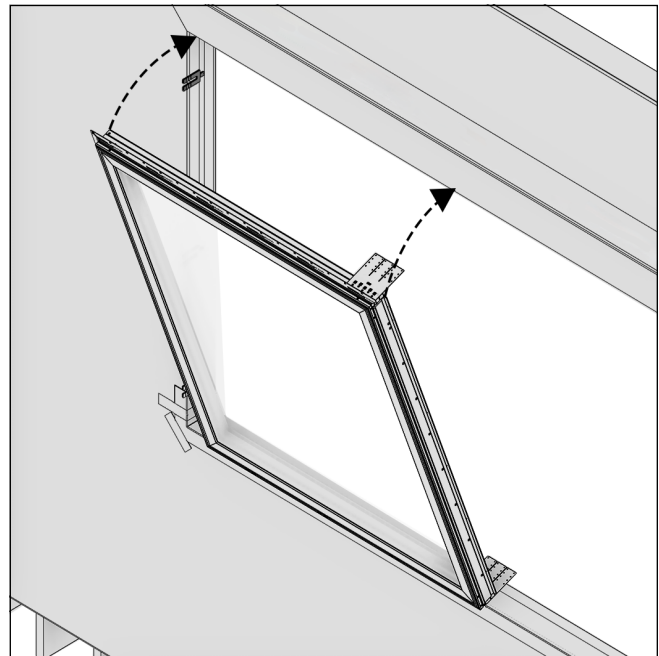
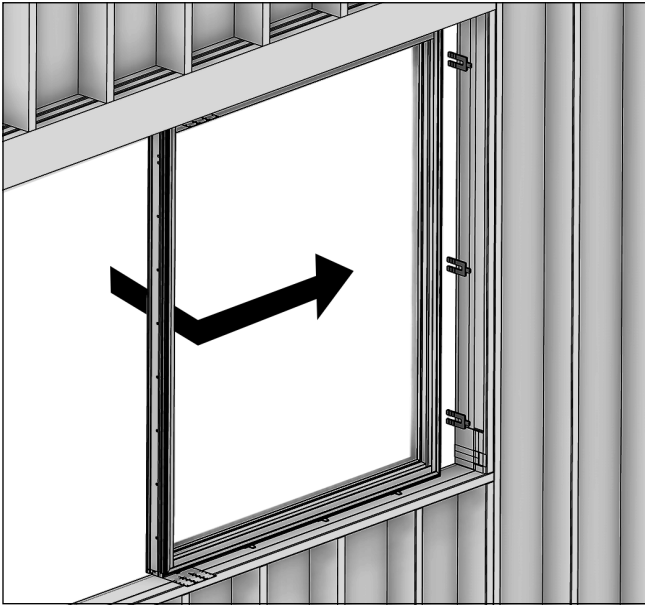

Figure 68 Tip in first assembly (exterior view)
Figure 69 Interior view
9. Tip first far left assembly into the RO against the jamb or shim stacks if used. See Figure 68 and Figure 69.